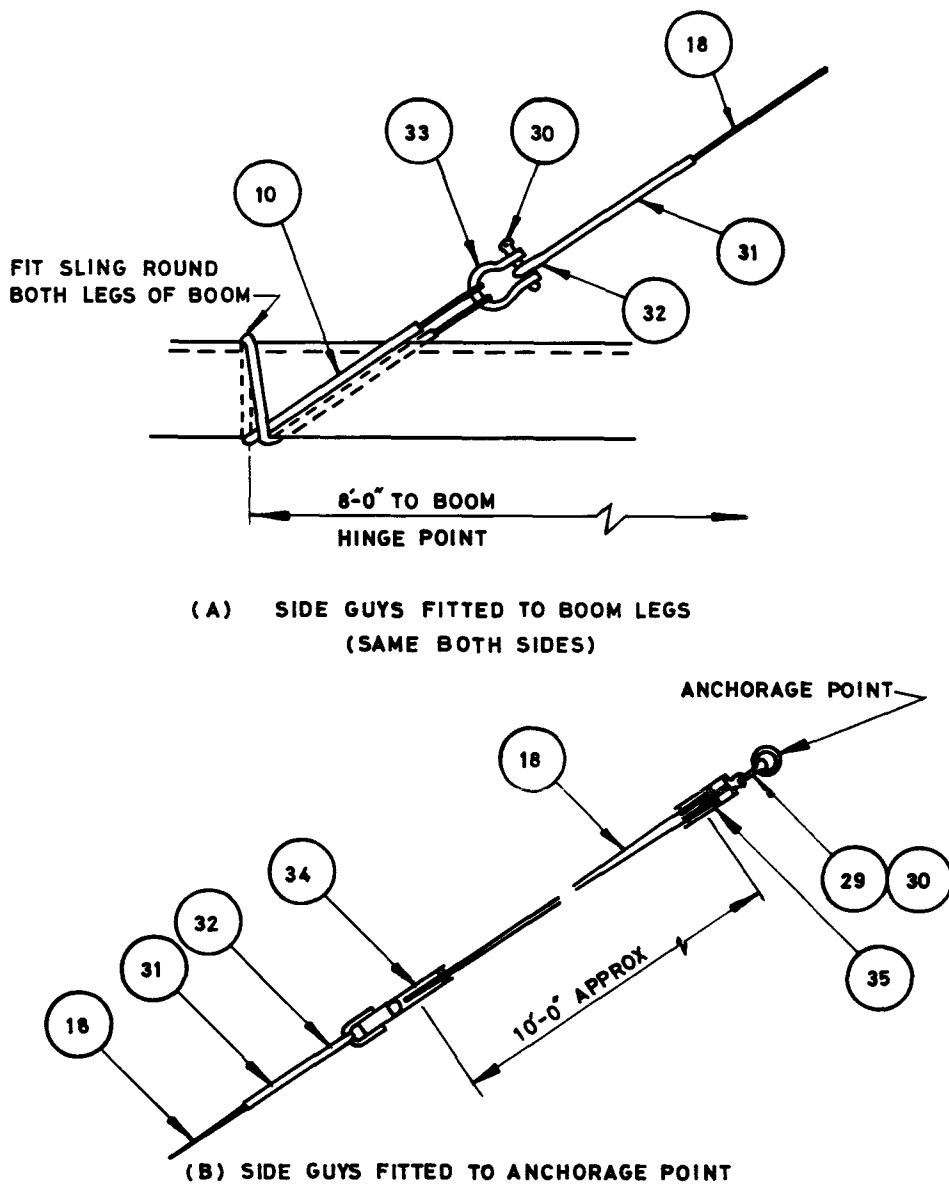

Fig.6 Fitting of guys
10.6 Fit stabilizing guys to the boom and make off to anchorage points West and East of the tower (Fig.6).
Table 5 ITEMS LIST FOR FIG 6